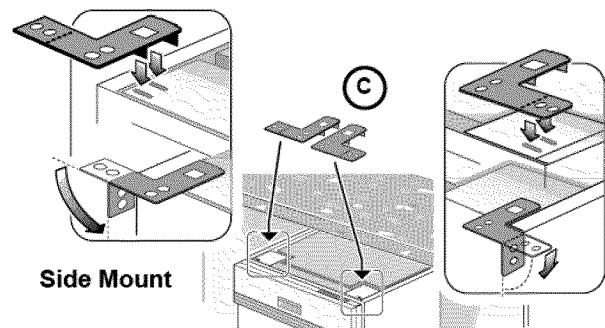

Figure 18
**Side Mount** is used for countertops made of marble, granite, or other very hard materials that cannot be easily drilled. Bend the mounting brackets along the small holes and in the same direction as the two small tabs. Orient the mounting brackets as shown in **Figure 18**, and position the two small tabs on the mounting brackets over the two slots on the dishwasher's front corners. Push the mounting brackets down firmly to insert the tabs into the slots. Bend perforated edge down as shown.